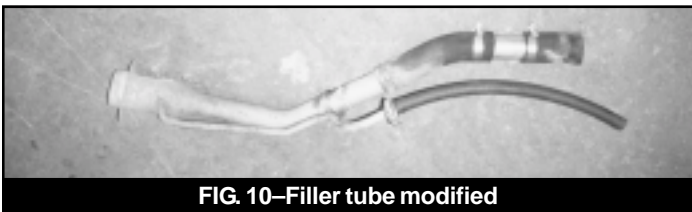

FIG. 10—Filler tube modified
79. Cut the fuel filler hose in half below the bottom bend. Using the metal extension and two hose clamps, reassemble the fuel filler tube (Fig. 10). Do not tighten clamps at this time.